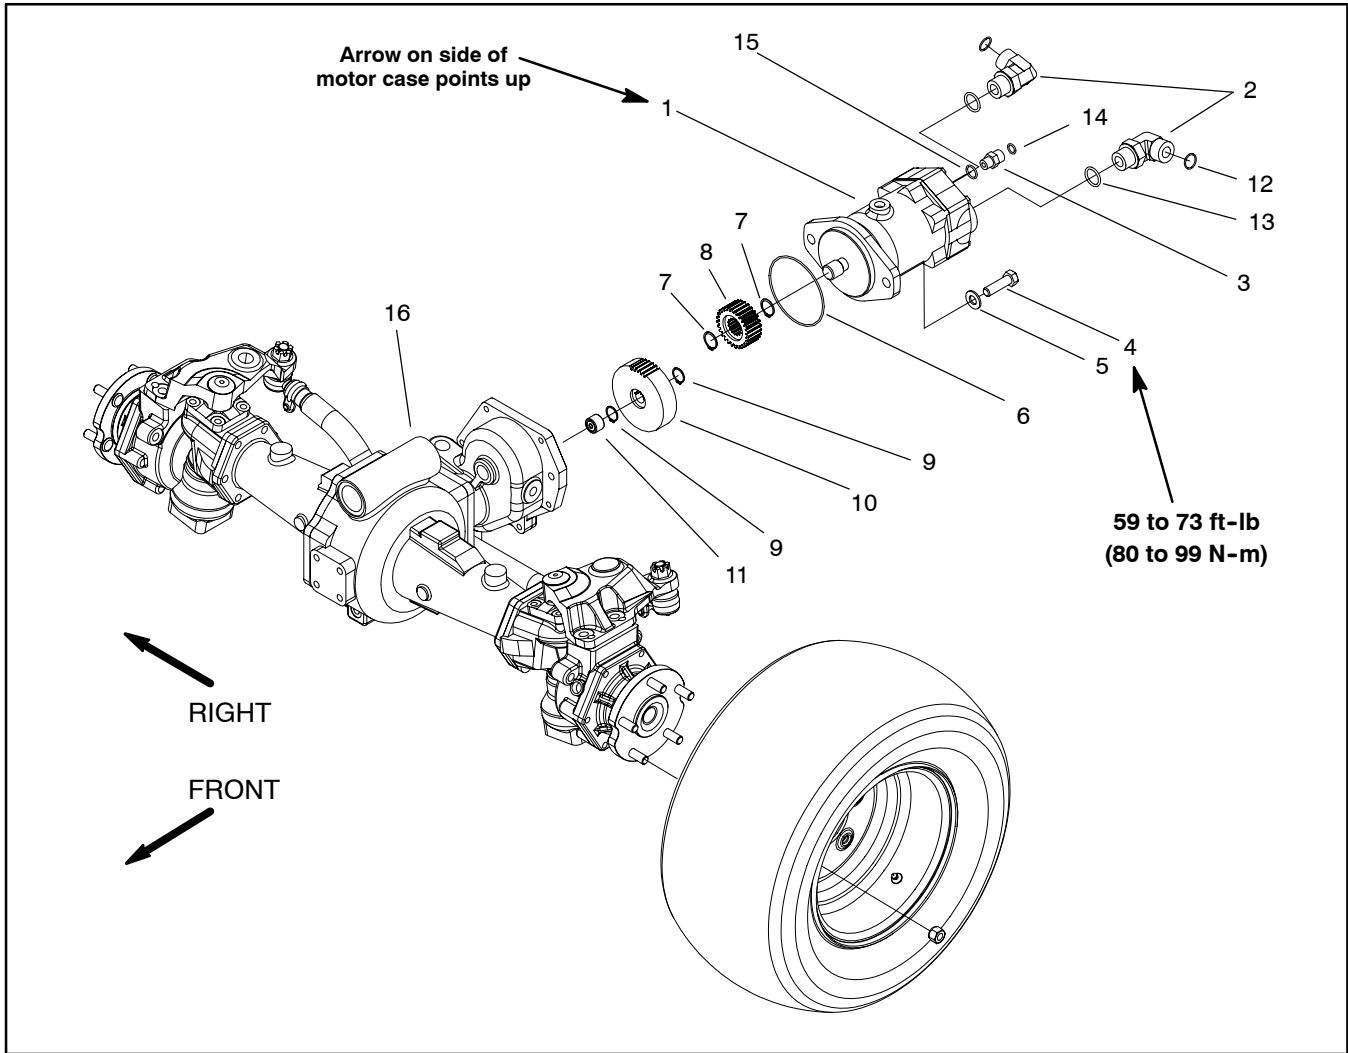

Figure 60
4. Remove motor using Figure 60 as a guide.